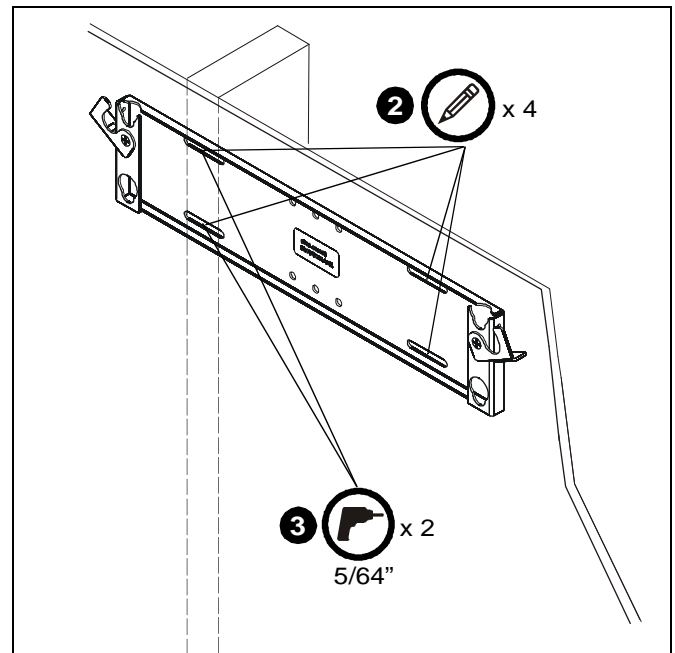

Figure 7
2. Using speaker bracket (A) as a template, mark mounting hole locations. (See Figure 7)
3. Drill two 5/64" holes in wood stud at marked locations on wood studs. (See Figure 7)